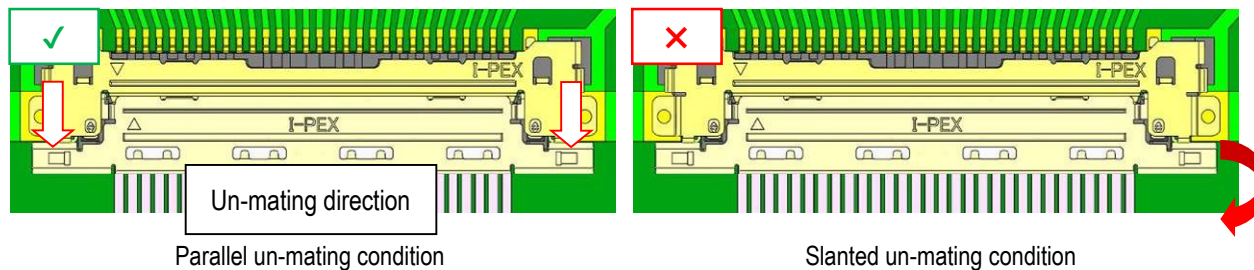
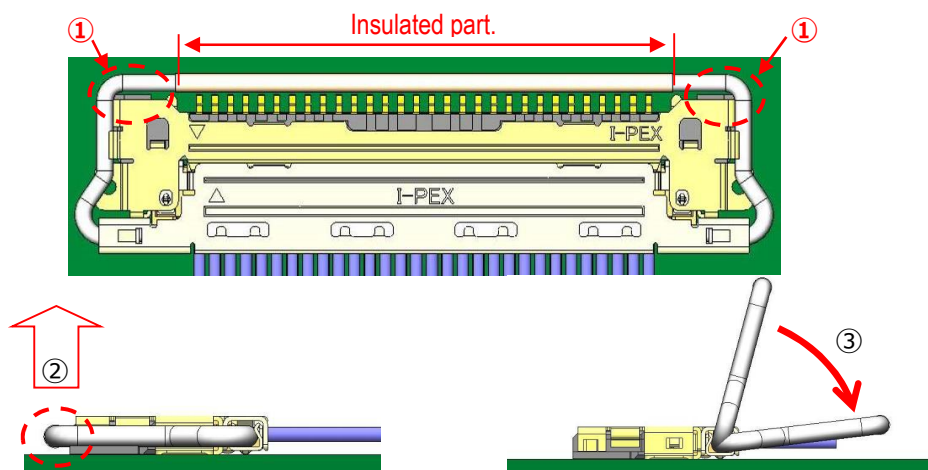
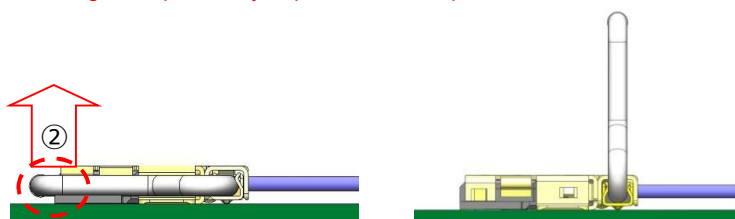

Fig.10
Fig.12
Fig.13
As shown in Fig.10, hold both ends of the plug connector and un-mating it parallel to the arrowed direction from the receptacle connector.
Raise one of ① points of pull bar in Fig.12 to the ② direction to release the lock with the receptacle connector, then, turn pull bar to ③ direction. Un-mating method is same as described in Fig.10.
As Fig 12, ① pull the one of ① points of pull bar up towards ② direction to release the lock from the receptacle connector and turn pull bar up to horizontal as Fig 13. As Fig 14, please make un-mating by pulling the horizontal part ③ in parallel to PCB.